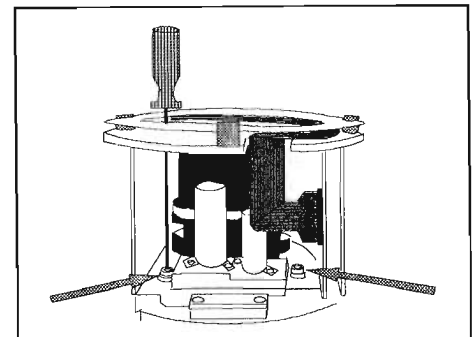

Fig 2, The nuts can be reached via the top of the camera
- The focusing screw is accessible through the preproc. 1 board (see figure 2 pag.6-4 of XTV8-SRI doc.)
- Mark the centre of the phantom on the monitor (1)
- rotate the camera to +90° - **MARKER starts on top again and runs 180° !!! right -**, mark the centre (2)
- draw a line between the two points on the monitor and mark the middle of the two points (3)
- the image will move diagonally on the monitor when turning one of the two nuts see Fig 2
- adjust the camera (4) to the marked middle (3) with an hexagonal wrench (use fluoroscopy)
Between WK1 and the flex, at the top of the camera, is enough space to reach the screws with a hexagonal wrench (no. 3) see Fig.2.